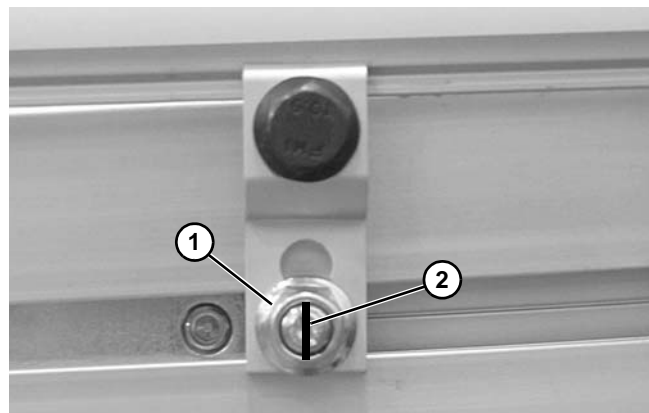

Figure 87
3. Tighten nuts (**Figure 87, item 1**).
*Be certain that slot (**Figure 87, item 2**) is close to vertical when finished tightening nut.*